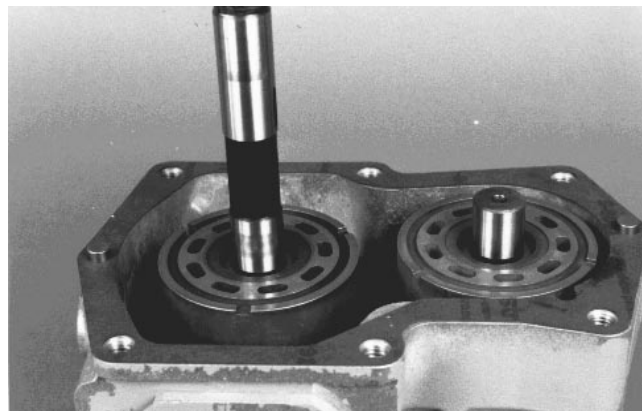

Figure 74
19. Install the two (2) alignment pins and install a new center section gasket onto the housing (Fig. 74).